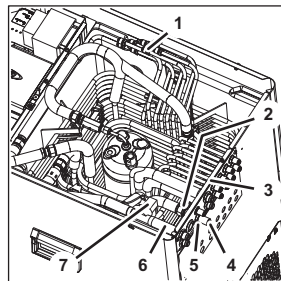

Figure 72
9. Remove the nut (Figure 72/5) of the soda water circulation connection (return) (Figure 72/4) from the connecting plate (Figure 72/3).
10. Disconnect the soda water circulation line (return) from the coupling (Figure 72/2).
11. Disconnect the Water-IN line (Figure 72/6) from the push-in fitting of the water inlet valve (Figure 72/7).
12. Disconnect all syrup tubes (Figure 72/1).
27. Attach all syrup tubes (Figure 72/1).
28. Attach the Water-IN line (Figure 72/6) to the push-in fitting of the water inlet valve (Figure 72/7).
29. Attach the soda water circulation line (return) to the coupling (Figure 72/2).
30. Attach the nut (Figure 72/5) of the soda water circulation connection (return) (Figure 72/4) to the connecting plate (Figure 72/3).